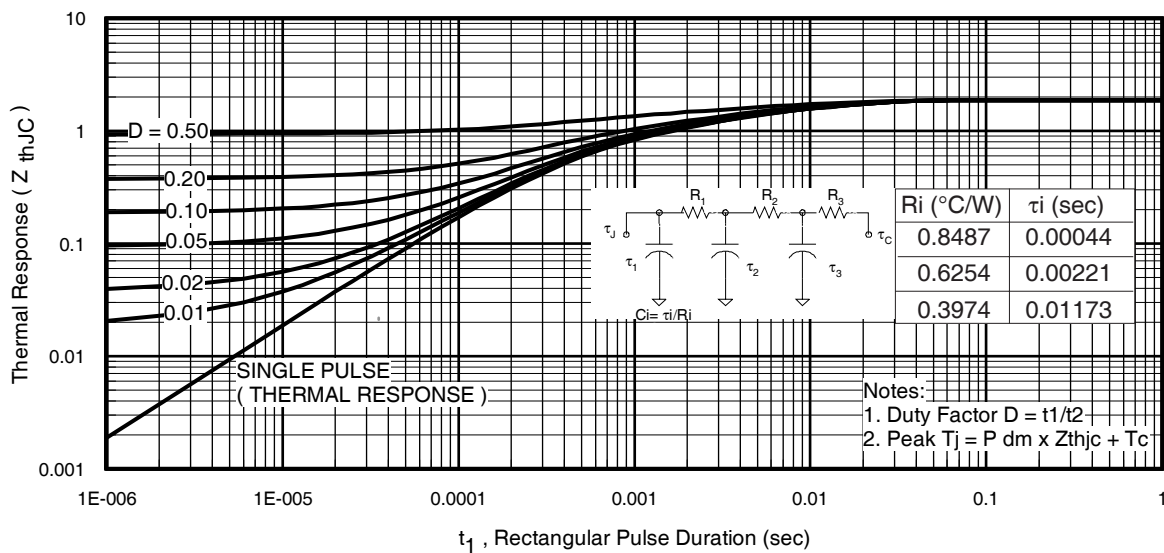
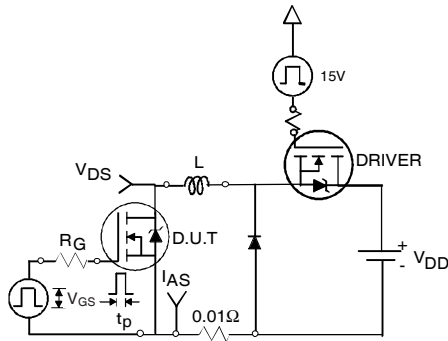

Fig 11. Maximum Effective Transient Thermal Impedance, Junction-to-Case
Fig 12a. Unclamped Inductive Test Circuit
- ① Repetitive rating; pulse width limited by max. junction temperature. (See fig. 11).
- ② Limited by T_{Jmax} , starting $T_J = 25^\circ\text{C}$, $L = 0.18\text{mH}$, $R_G = 25\Omega$, $I_{AS} = 31A$, $V_{GS} = 10V$. Part not recommended for use above this value.
- ③ $I_{SD} \leq 31A$, $di/dt \leq 840A/\mu s$, $V_{DD} \leq V_{(BR)DSS}$, $T_J \leq 175^\circ\text{C}$.
- ④ Pulse width $\leq 1.0\text{ms}$; duty cycle $\leq 2\%$.
- ⑤ $C_{oss\text{ eff.}}$ is a fixed capacitance that gives the same charging time as C_{oss} while V_{DS} is rising from 0 to 80% V_{DSS} .
- ⑥ Limited by T_{Jmax} , see Fig.12a, 12b, 15, 16 for typical repetitive avalanche performance.
- ⑦ This value determined from sample failure population. 100% tested to this value in production.
- ⑧ This is applied to D²Pak, when mounted on 1" square PCB (FR-4 or G-10 Material). For recommended footprint and soldering techniques refer to application note #AN-994.
- ⑨ R_θ is rated at T_J of approximately 90°C .
3. Equation below based on circuit and waveforms shown in Figures 12a, 12b.
$Z_{thJC}(D, t_{av})$ = Transient thermal resistance, see figure 11)